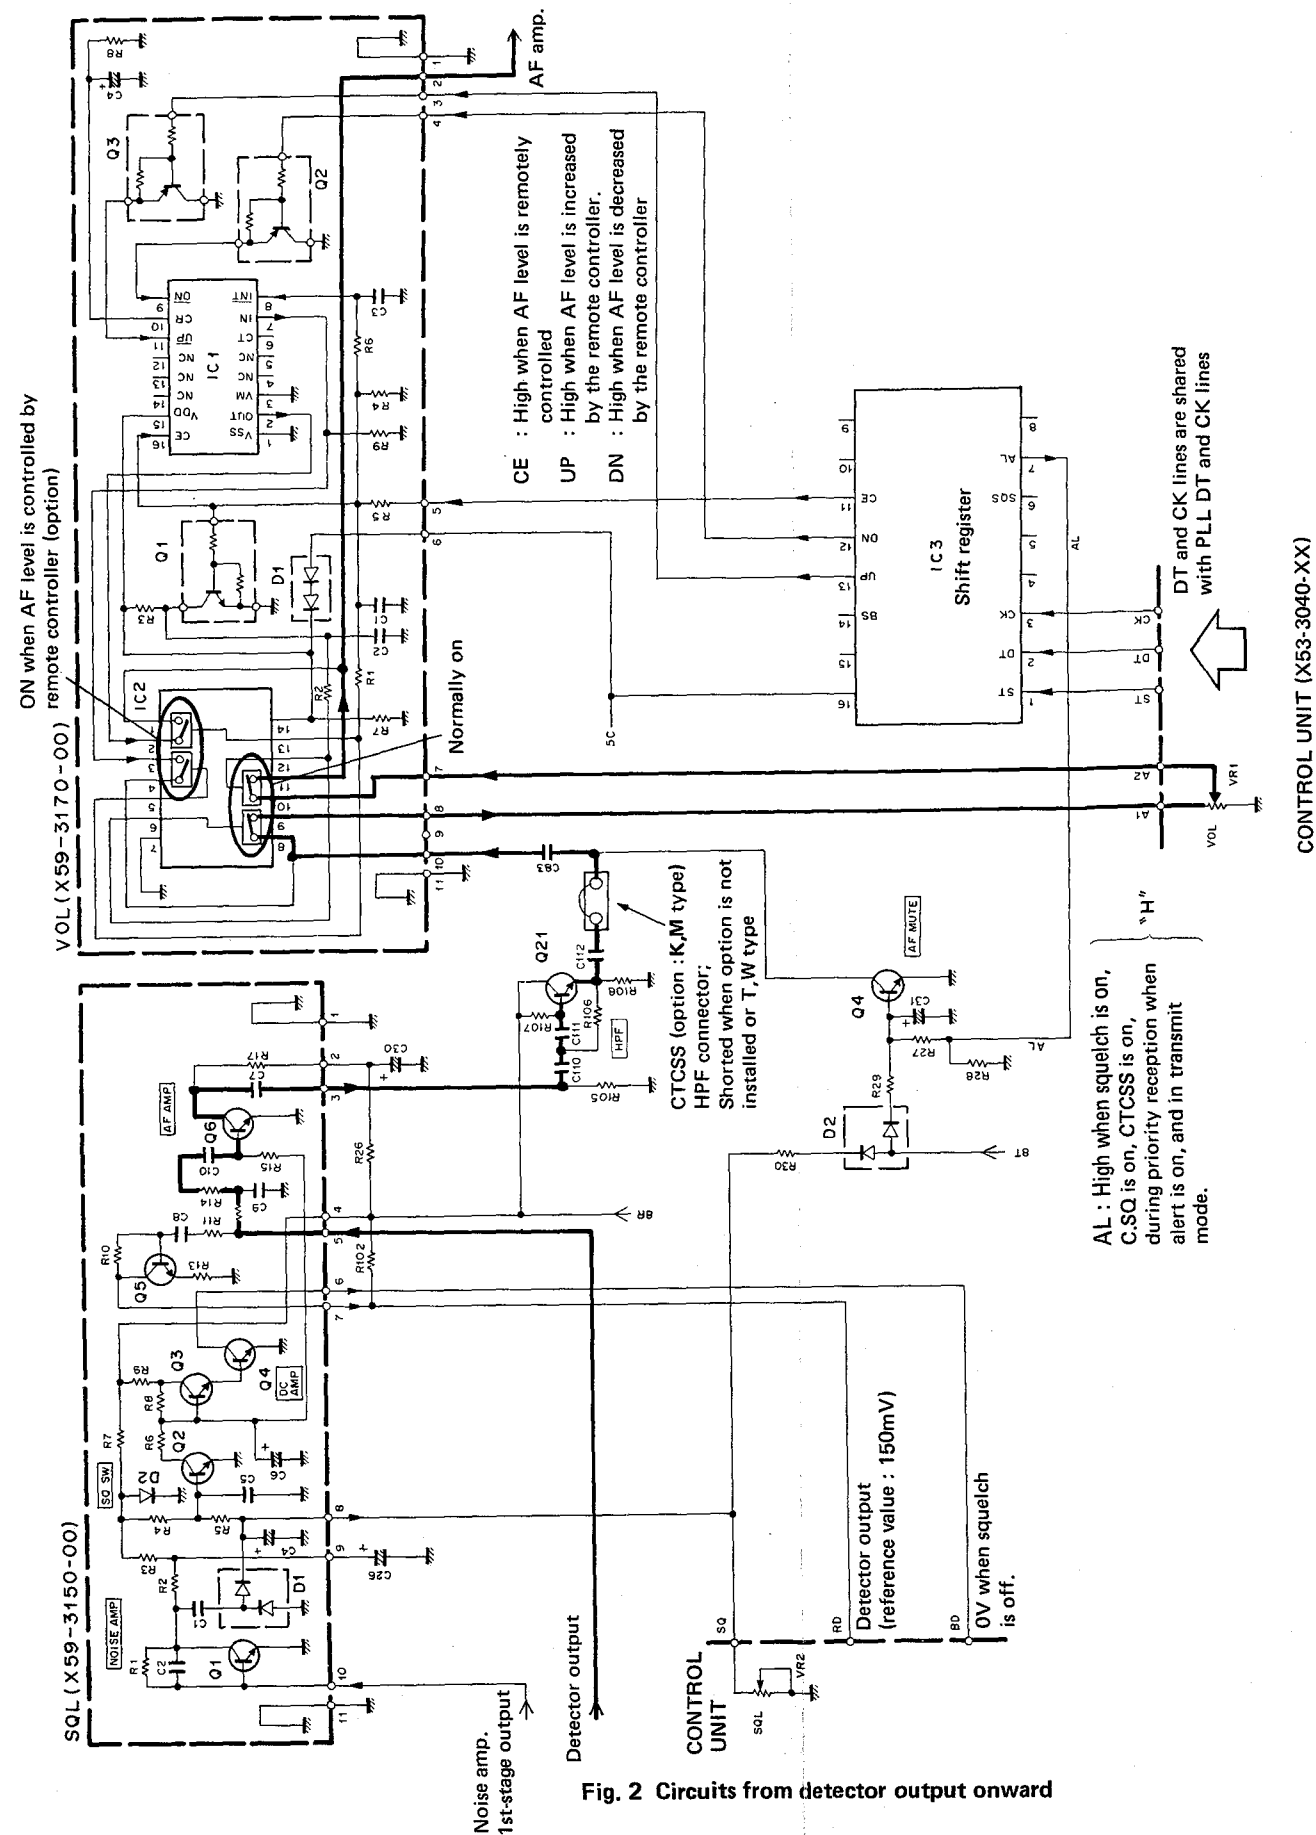

Fig. 2 Circuits from detector output onward
The first IF signal is amplified by Q3 : 2SC2714(Y) and fed to a special narrow-FM IC (TA7761F). Here the signal is mixed with the 10.24MHz (**K,M**), 10.245MHz (**T,W**) frequency from the second local oscillator to produce the 455kHz second IF signal. This signal is sharpened by passing it through a six-element ceramic filter (CFW455F). The signal is then amplified by a five-stage limiting amplifier contained in IC1. This is followed by quadrature detection which is also performed by IC1. Undesirable high-frequency components are removed from the detected signal by an active low-pass filter. The signal then passes through the audio volume control, then is amplified by the audio power amplifier (IC4), and applied to the speaker. The circuit configuration from detection onward is shown in **Fig. 2**.